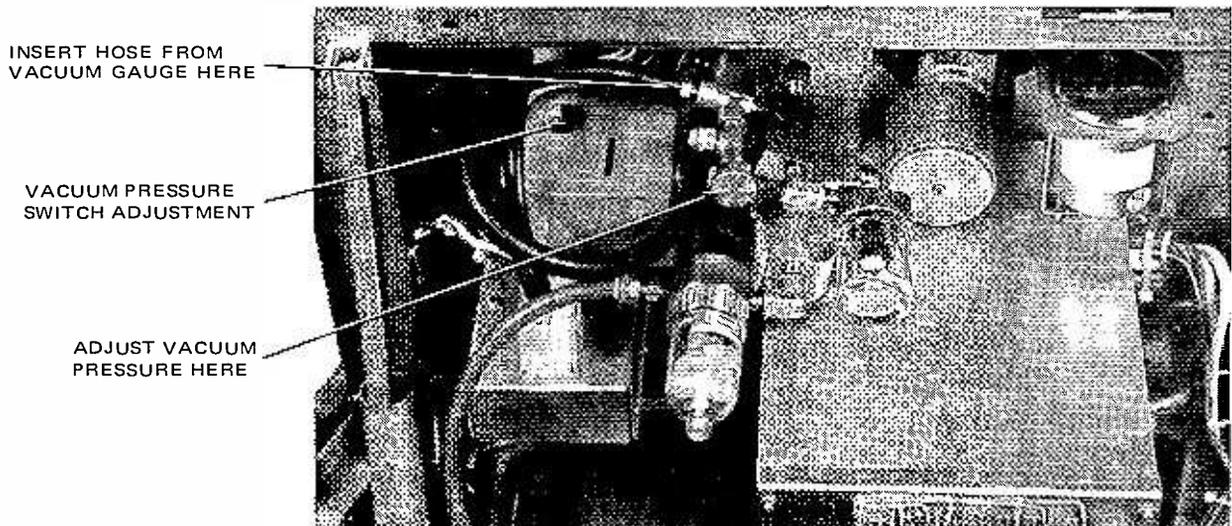

Figure 5-10. Vacuum Pressure Adjustment
4. Disconnect the air hose from the vacuum adjustment valve and connect a vacuum gauge to the valve as shown in Figure 5-10.